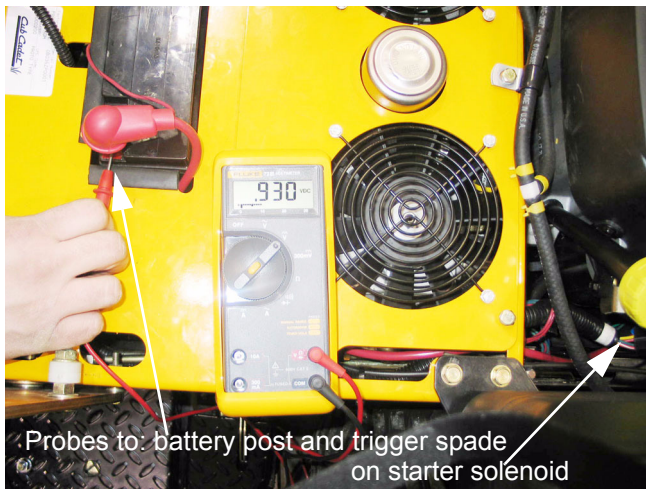

Figure 36.7
36.7. As an example: See Figure 36.7.